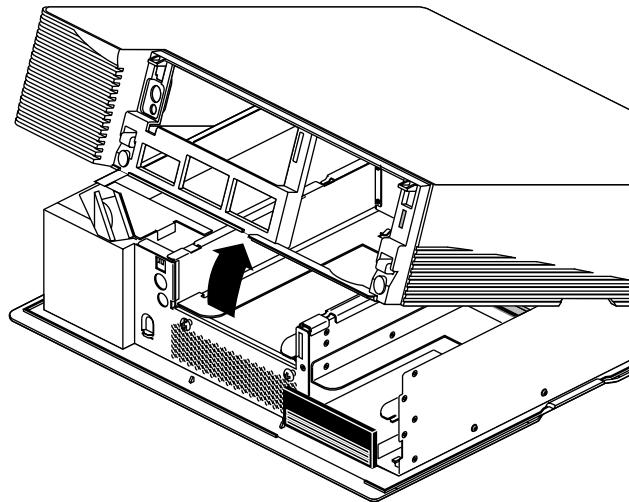

Figure 4-6 Removing the Top Cover
- Rotate the cover back and away from the chassis, as shown in Figure 4-6.